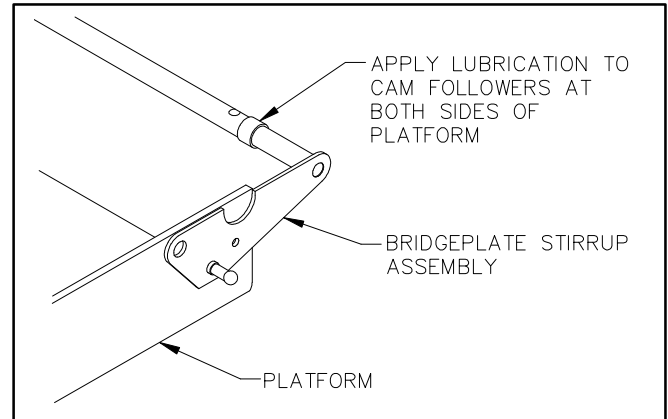

FIGURE 4-5: BRIDGEPLATE LUBRICATION DETAIL
- c. Refer to **Figure 4-5**. Lubricate the bridgeplate stirrup assembly cam followers using a light grease such as Curtisol Red Grease #88167. Wipe clean any excess grease.